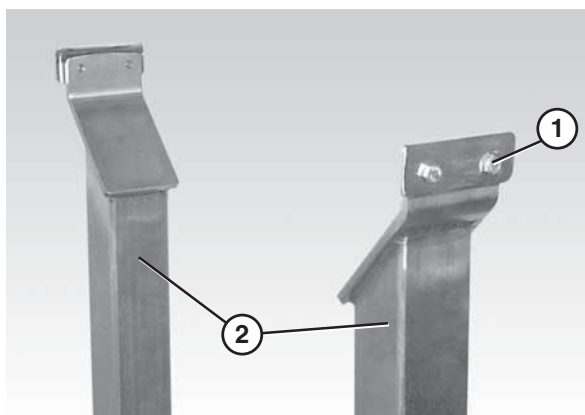

Figure 3
2. Loosen the M6 clamp plate screws (Figure 3, item 1) on each side of the stand (Figure 3, item 2).